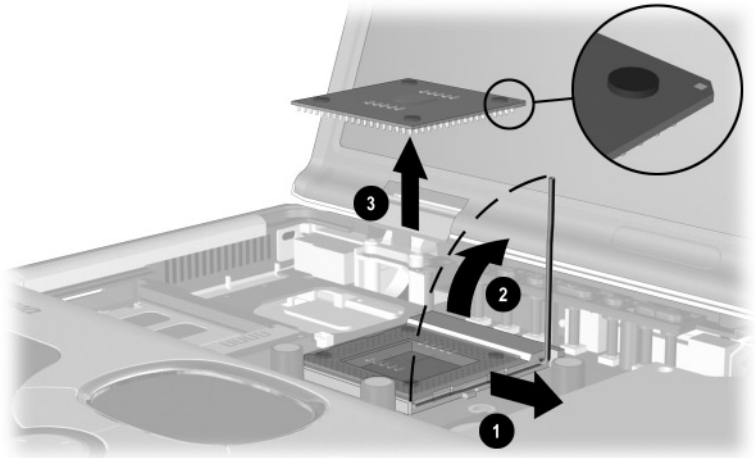

Figure 5-24. Removing the Processor
2. Slide the front end of the processor release bar **1** to the right until it clears the clip on the processor bracket (Figure 5-24).